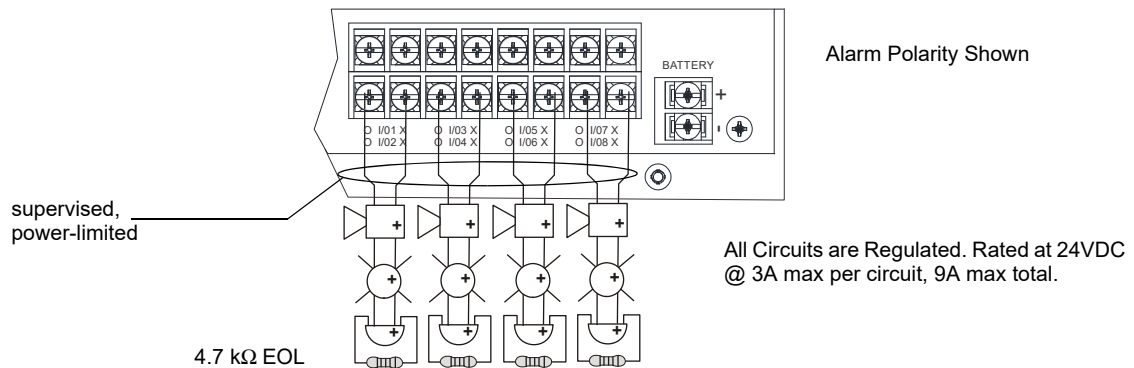

Figure 4.44 Class B Notification Appliance Circuit Wiring
1. Wire Class B notification appliances as shown in Figure 4.44.